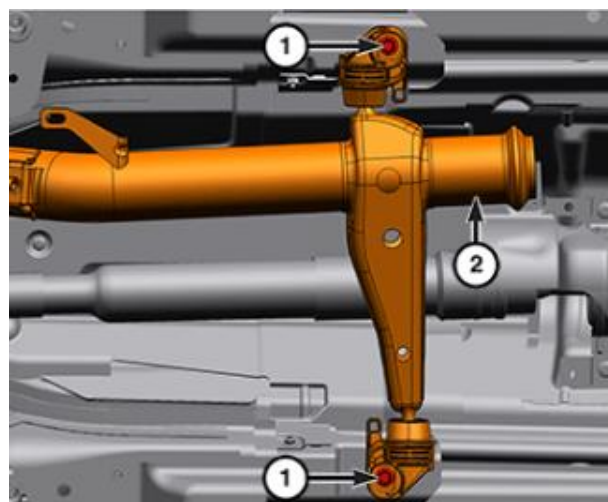

Figure 18 – Crossunder Pipe
9. Remove the rear crossunder pipe isolator bolts (Figure 18).
22. Install the rear crossunder pipe isolator bolts and tighten to 28 N·m (21 ft. lbs.) (Figure 18).